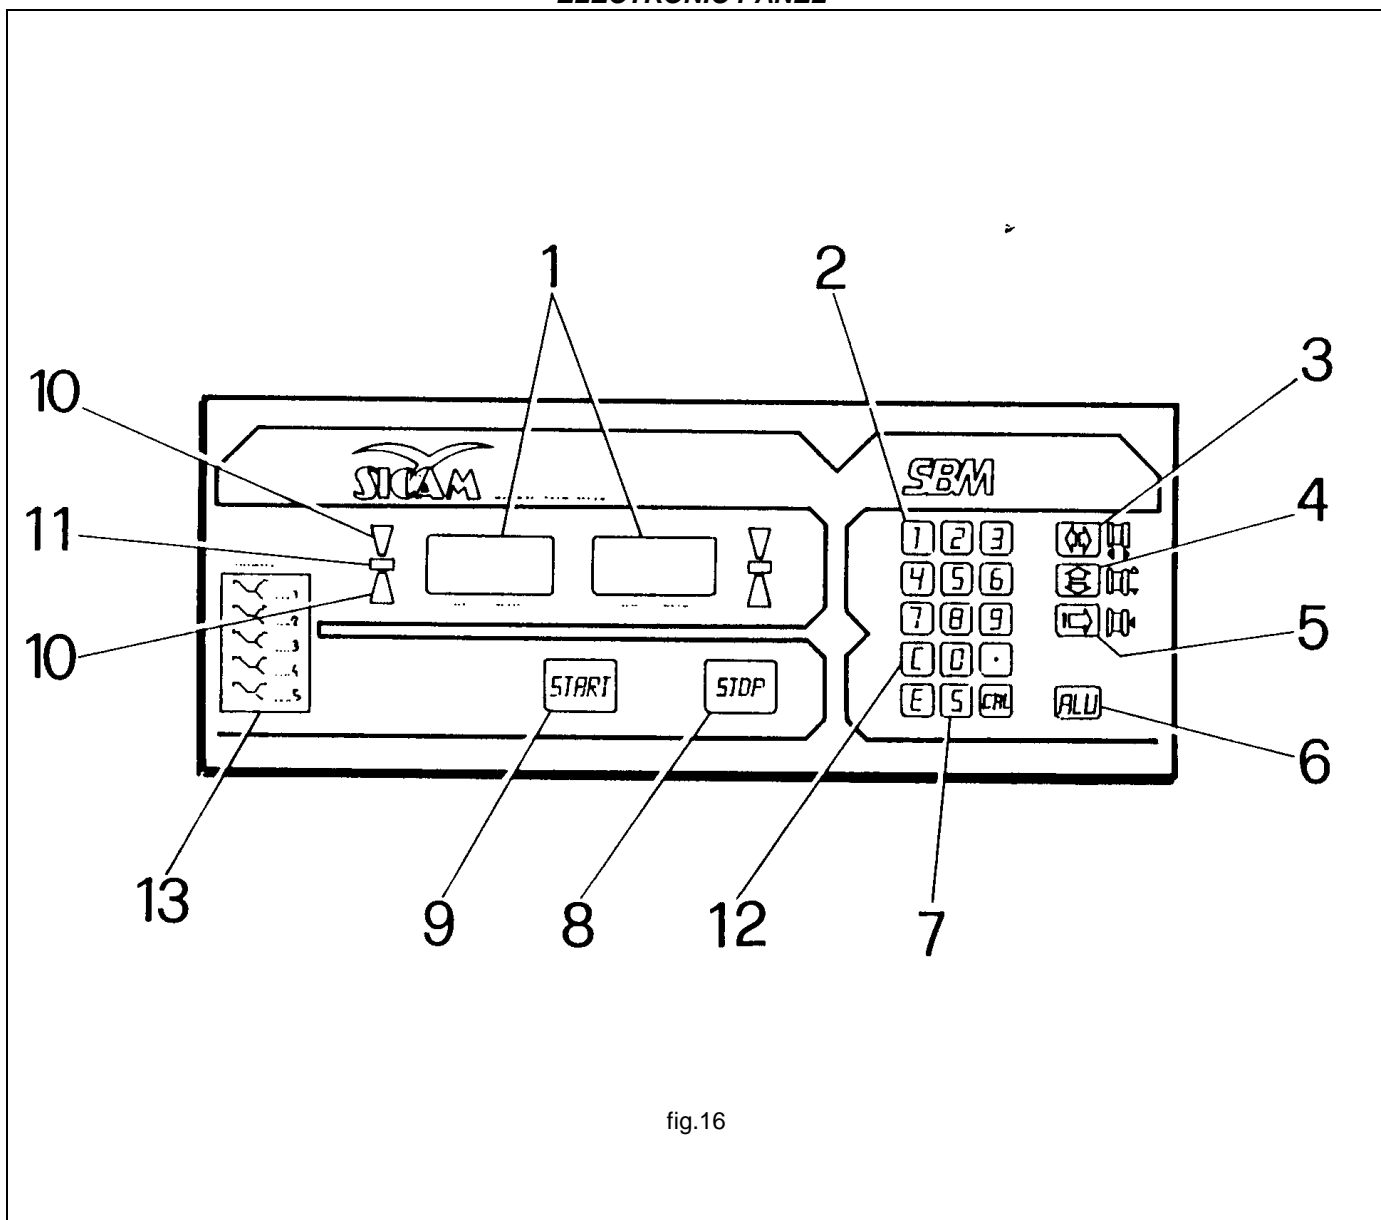

fig.16
- The displays (**fig. 16**) read "0". Close the wheel protector guard and push the **START** button (**9, fig. 16**) to start the measuring cycle.
- The wheel guard must not be opened before stopping. In an emergency the **STOP** button (**8, fig. 16**) shuts down the machine.
- The LED arrows (**10, fig. 16**) indicate the direction in which the wheel has to be rotated to reach the position for balancing (separate arrows for each side of the wheel).
- The wheel has to be rotated by hand until the **LED** (**11, fig. 16**) lights up.
- a) Press 3 (fig. 16) and set the wheel width in inches (ex. 6.0", 5.5" etc.), then press E
- b) Press 4 (fig. 16) and set the diameter of the wheel in inches (ex. 13" or 14"), then press E
- c) Press 5 (fig. 16) and set the distance in mm of the wheel from the body of the machine (ex. 80 mm, 65 mm etc.). this distance is shown on the graduated scale (fig. 18), then press E
- 18 - Press 1 O O E (fig. 16) (if the weight is of 80g, press 8 0 E)